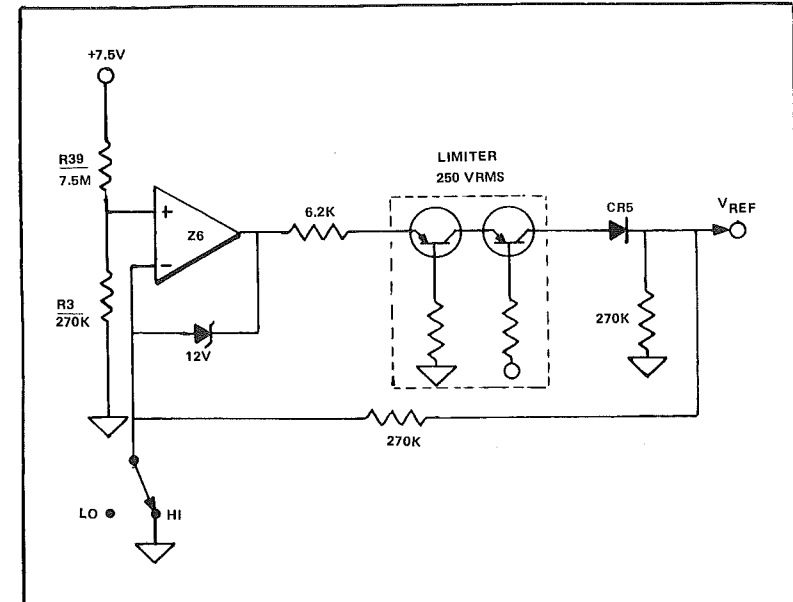

Fig. 3-4. Resistance Voltage Excitation
d. The generation of V_{REF} for resistance excitation is illustrated in the simplified schematic of Figure 3-4. Selection of HiV or LoV mode determines the inverting input to differential amplifier Z6. The non-inverting input is obtained from the regulated +7.5V, and is $\frac{270 \times 10^3}{7.77 \times 10^6} (7.5) = 250$ millivolts, nominal. For LoV excitation, the V_{REF} is servoed to the nominal 250 millivolts. When in HiV excitation mode, the feedback around Z6 is opened, causing it to saturate to the +7.5 volts of the supply voltage, producing 2.5V max as V_{REF} .